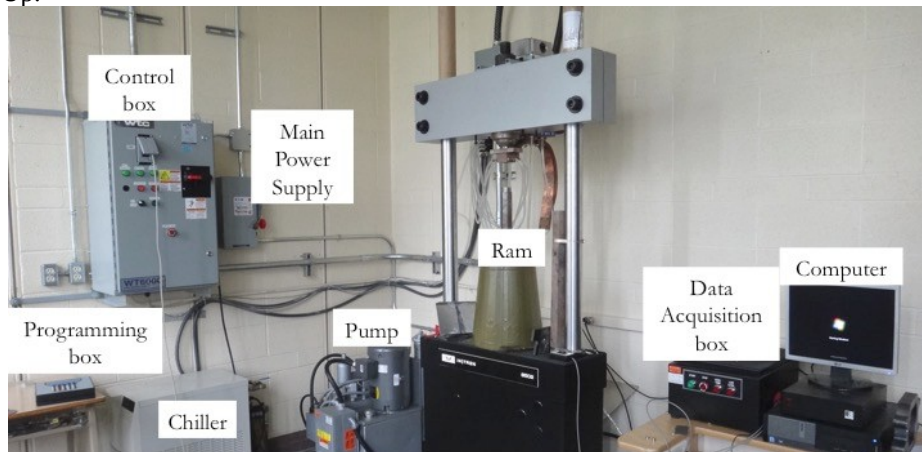

Figure 1: Overview of the equipment layout.
2. Switch on the main power supply (Figure 1)